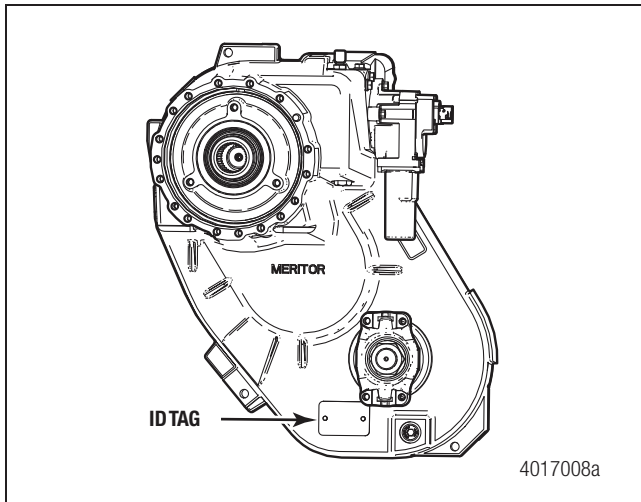

Figure 2
1. Locate the identification tag on the front of the transfer case. Figure 2.